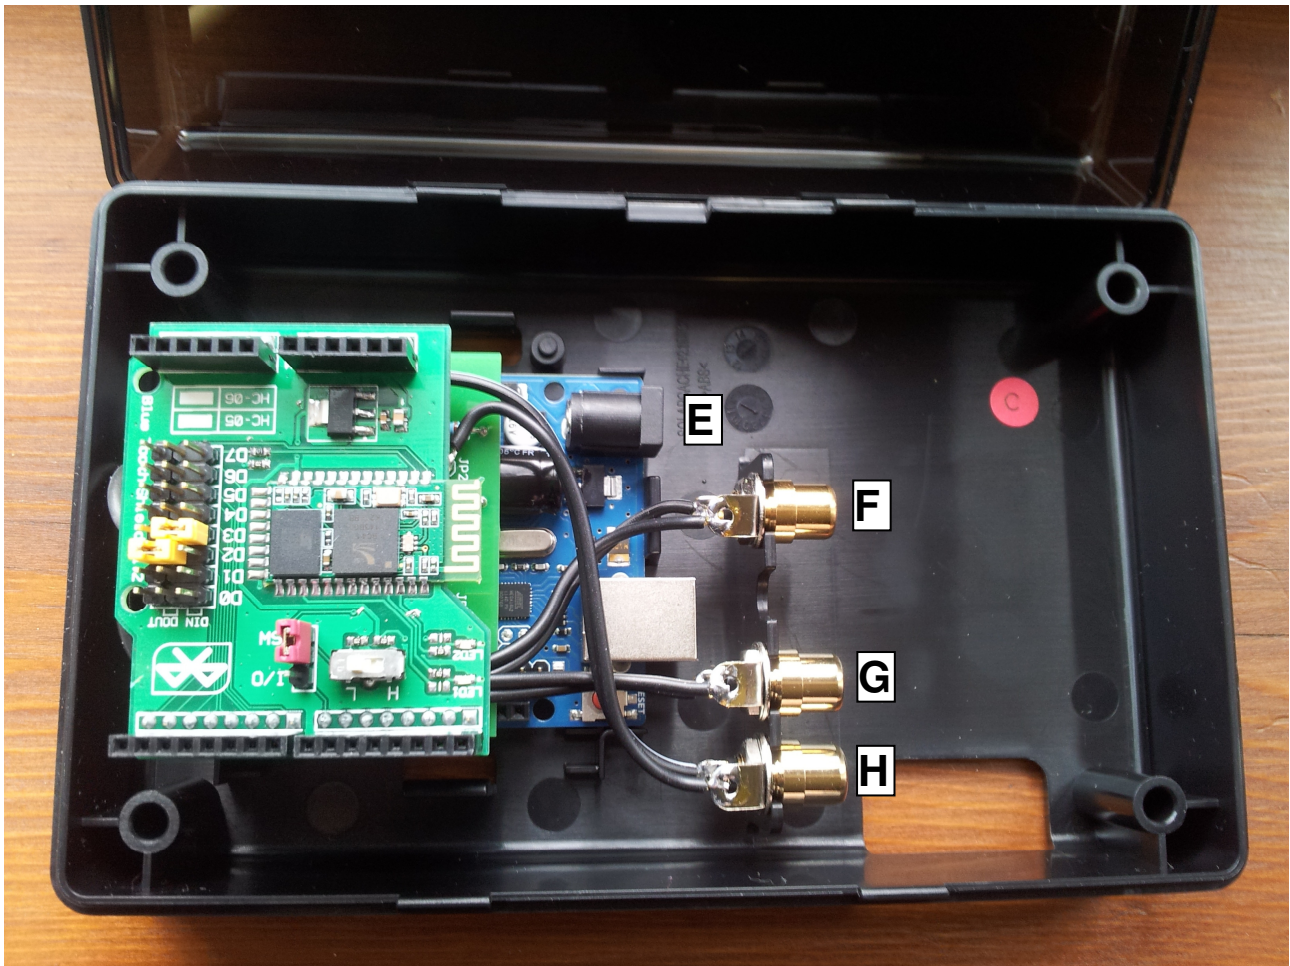

Figure 1
5. Install the associated cables and make connections as per figures 1, 2 & 3. (Do not clip on the current transformers yet.)
8. Socket designations (see Figure 1):
Note: the unit shown in Figure 1 is a Bluetooth controller unit. The standard unit has a display board in place of the shown Bluetooth board, and a switch at the top right.